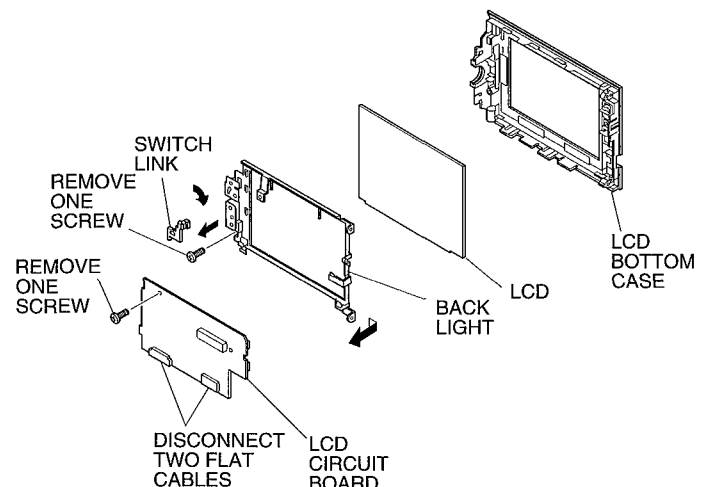

Fig. 2-13
2.12 LCD Circuit Board, Back Light, LCD, LCD Bottom Case (Fig. 2-13)